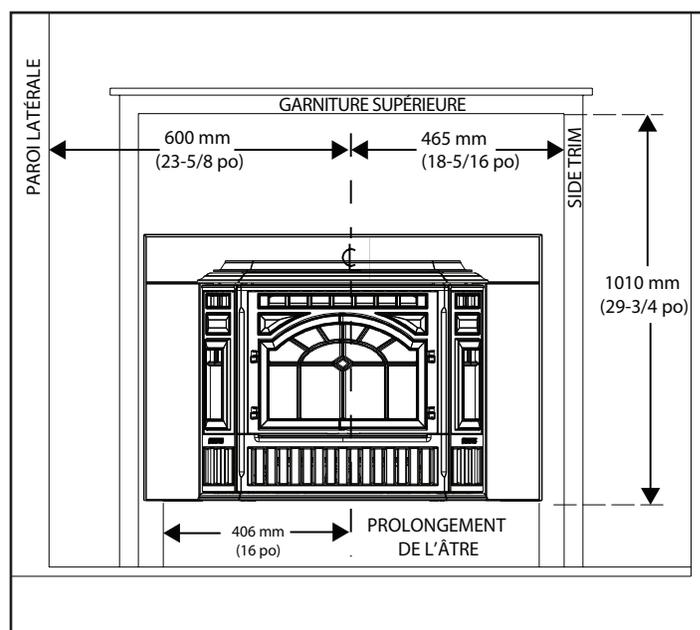

Figure 34.2
8. With new blower in hand line up gasket with hole and secure with bolts from step 6 (**Figure 34.2**).